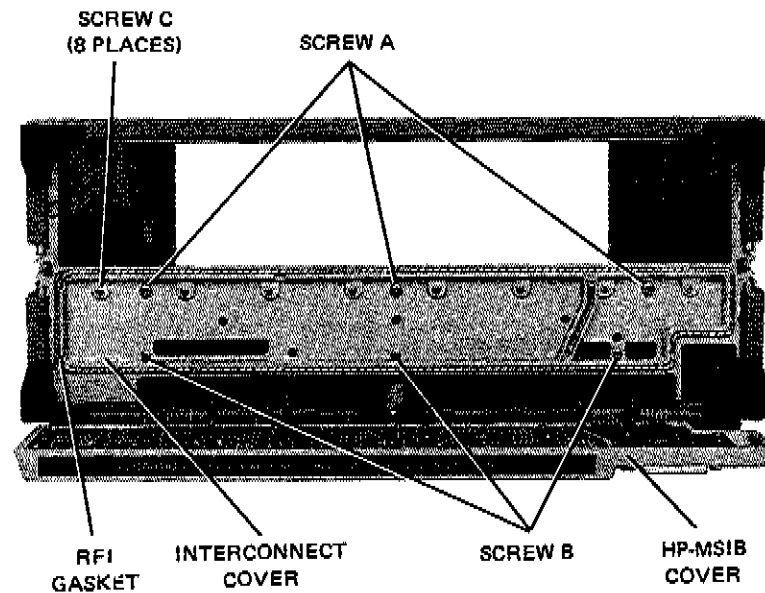

Figure 5. Interconnect Cover Removal
2. Loosen three large screws, Screws A, on interconnect cover. (Loosen these screws only until they slide freely in the cover, do not remove from the cover. See Figure 5).
1. Place interconnect cover onto mainframe and insert three screws (Screws A on Figure 5).